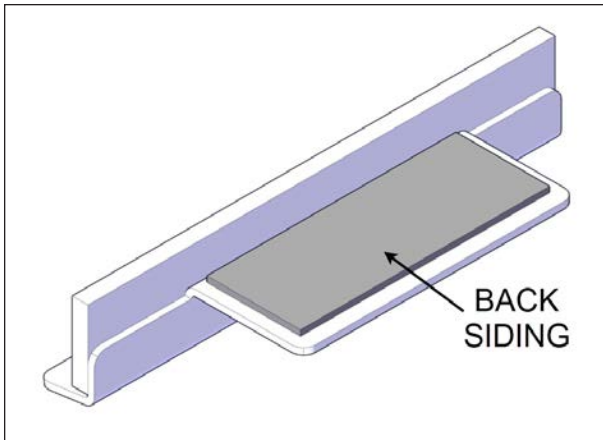

FIGURE 54: PEEL BACK WIPER SIDING
2. Peel back the red siding of the double-sided tape of one wiper, see Figure 54.